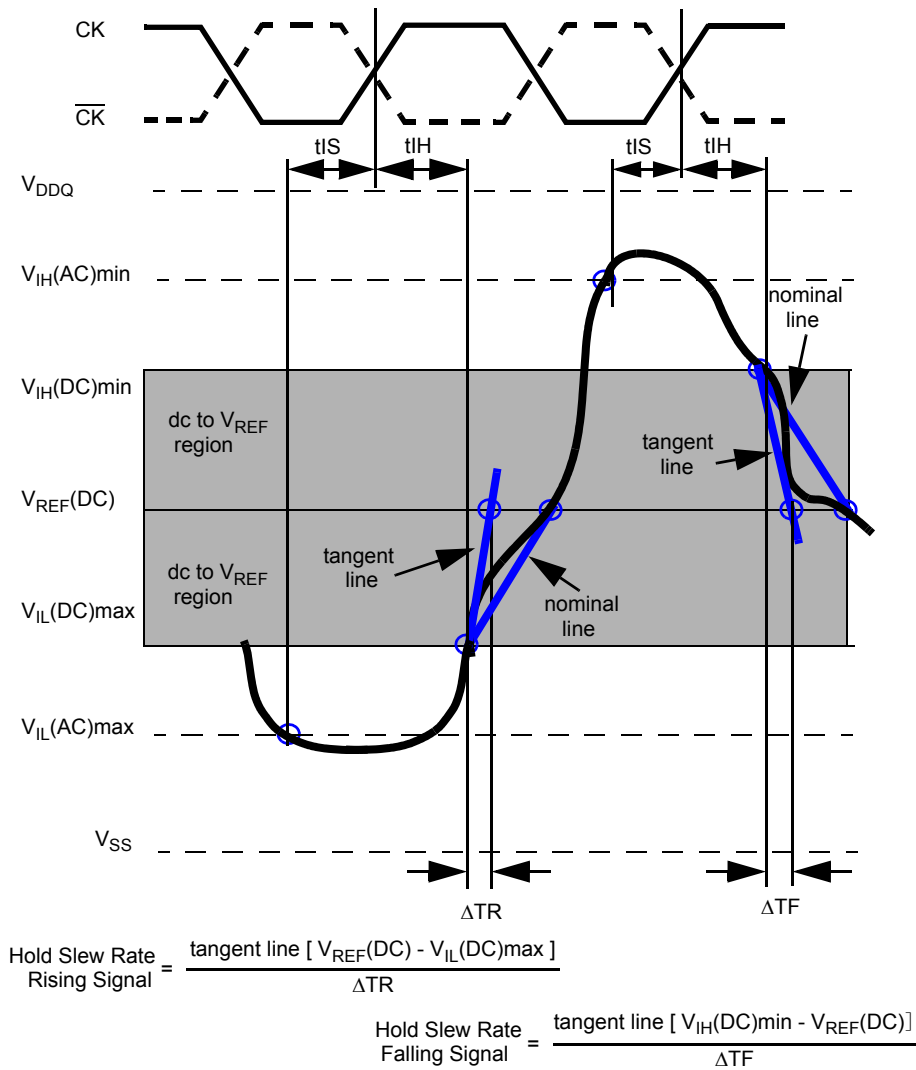
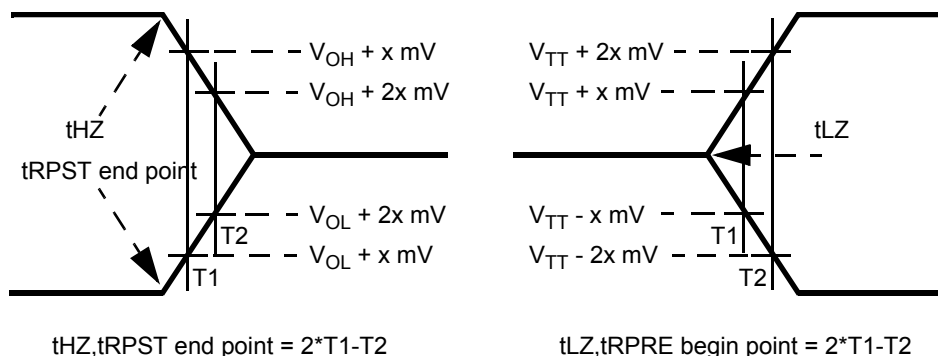

Figure 18. Illustration of tangent line for tIH
Figure 19. Method for calculating transitions and endpoints
Setup (tIS) nominal slew rate for a rising signal is defined as the slew rate between the last crossing of VREF(dc) and the first crossing of Vih(ac)min. Setup (tIS) nominal slew rate for a falling signal is defined as the slew rate between the last crossing of VREF(dc) and the first crossing of Vil(ac)max. If the actual signal is always earlier than the nominal slew rate line between shaded 'VREF(dc) to ac region', use nominal slew rate for derating value (see Figure 18). If the actual signal is later than the nominal slew rate line anywhere between shaded 'VREF(dc) to ac region', the slew rate of a tangent line to the actual signal from the ac level to dc level is used for derating value (see Figure 19).
20. Input waveform timing t_{DS} with differential data strobe enabled $MR[\text{bit}10]=0$, is referenced from the input signal crossing at the $V_{IH}(\text{ac})$ level to the differential data strobe crosspoint for a rising signal, and from the input signal crossing at the $V_{IL}(\text{ac})$ level to the differential data strobe crosspoint for a falling signal applied to the device under test. DQS , \overline{DQS} signals must be monotonic between $V_{il}(\text{dc})_{\text{max}}$ and $V_{ih}(\text{dc})_{\text{min}}$. See Figure 18.
21. Input waveform timing t_{DH} with differential data strobe enabled $MR[\text{bit}10]=0$, is referenced from the differential data strobe crosspoint to the input signal crossing at the $V_{IH}(\text{dc})$ level for a falling signal and from the differential data strobe crosspoint to the input signal crossing at the $V_{IL}(\text{dc})$ level for a rising signal applied to the device under test. DQS , \overline{DQS} signals must be monotonic between $V_{il}(\text{dc})_{\text{max}}$ and $V_{ih}(\text{dc})_{\text{min}}$. See Figure 18.
22. Input waveform timing is referenced from the input signal crossing at the $V_{IH}(\text{ac})$ level for a rising signal and $V_{IL}(\text{ac})$ for a falling signal applied to the device under test. See Figure 19.
23. Input waveform timing is referenced from the input signal crossing at the $V_{IL}(\text{dc})$ level for a rising signal and $V_{IH}(\text{dc})$ for a falling signal applied to the device under test. See Figure 19.